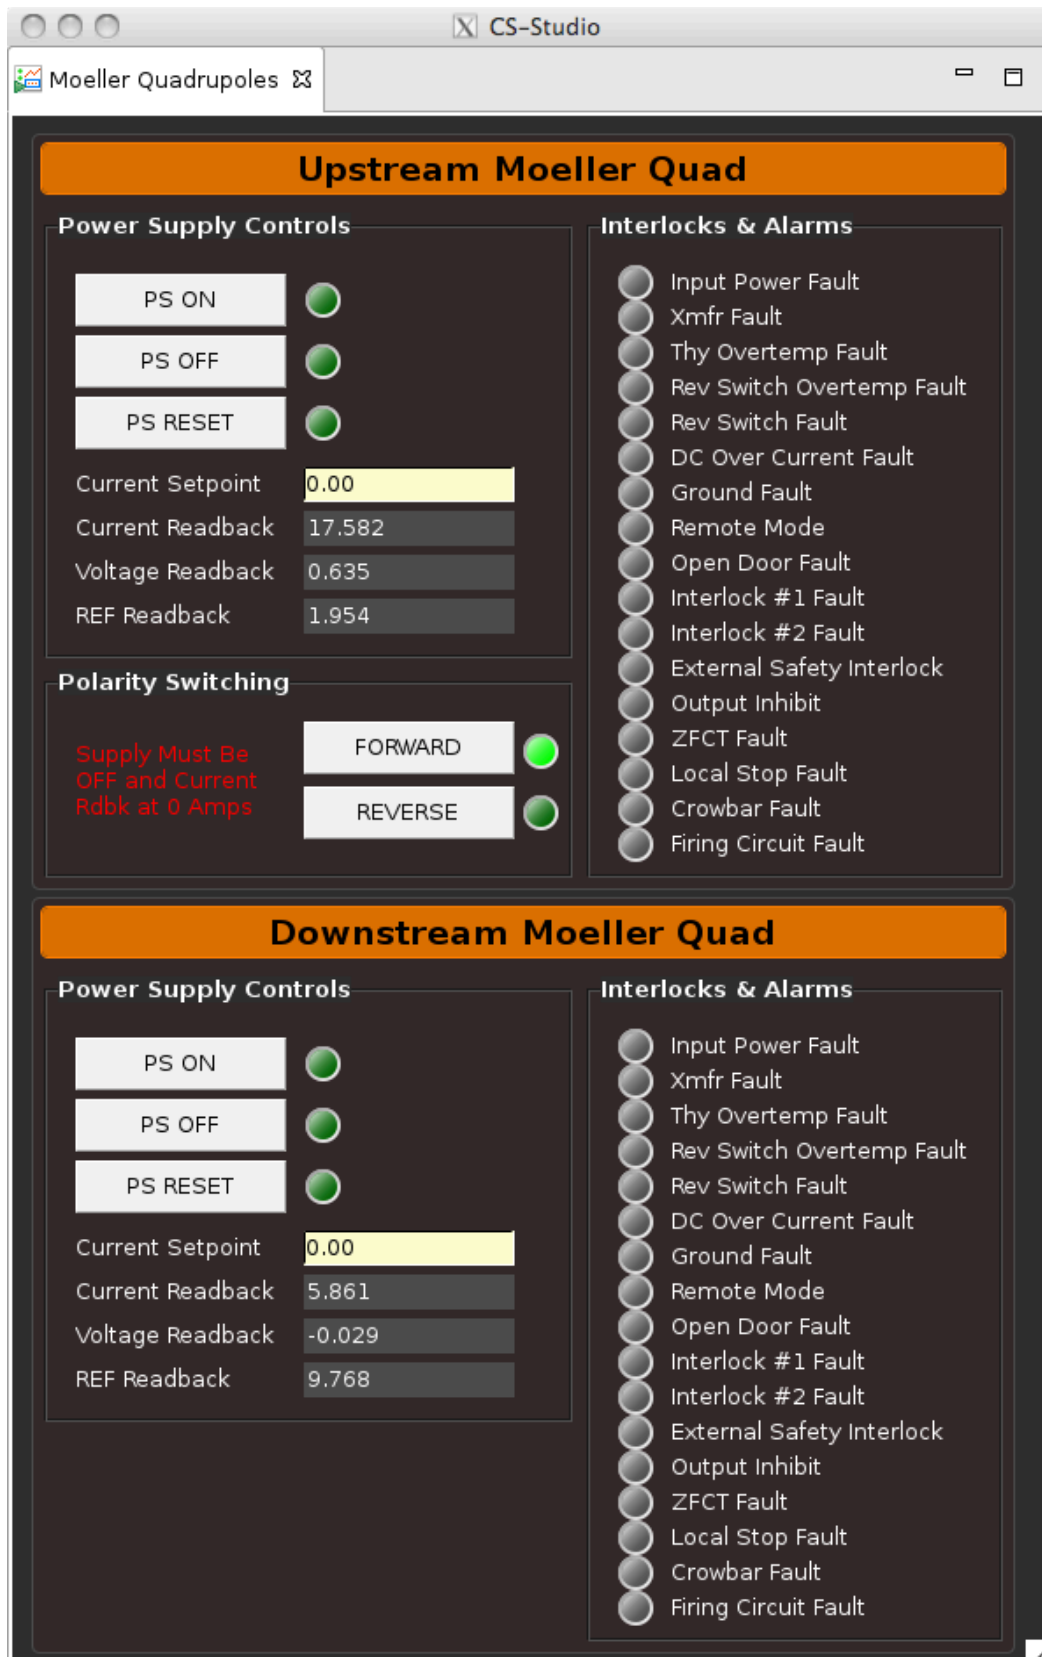

Figure 2: Control GUI for the Möller quadrupole power supplies.
- The control for Möller quadrupole power supplies are provided in "Moeller Quadrupoles" GUI, see Fig.2. Power supplies will be turned ON and in remote before hall closing. From GUI one should first turn them on by pushing the "PS ON" buttons, then set the desire value for currents in "Current Setpoint" window. For 10.7 GeV the suggested value for the quadrupoles is 3050 A, for 6.4 GeV suggested current is 440 A.